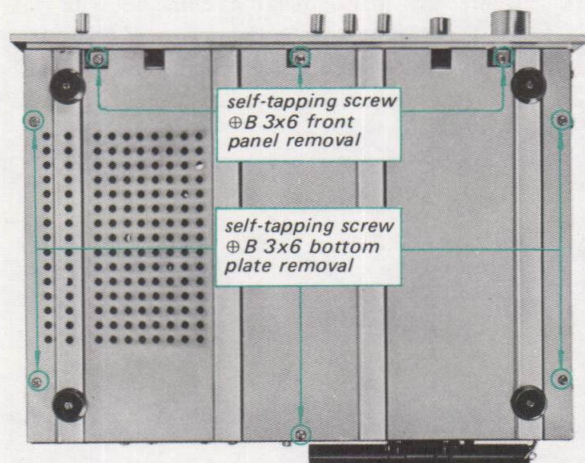

Fig. 2-2. Bottom view
2. Bottom plate can be freed by removing the five self-tapping screws as shown in Fig. 2-2.
2. Remove the three self-tapping screws at the front bottom of the chassis as shown in Fig. 2-2.